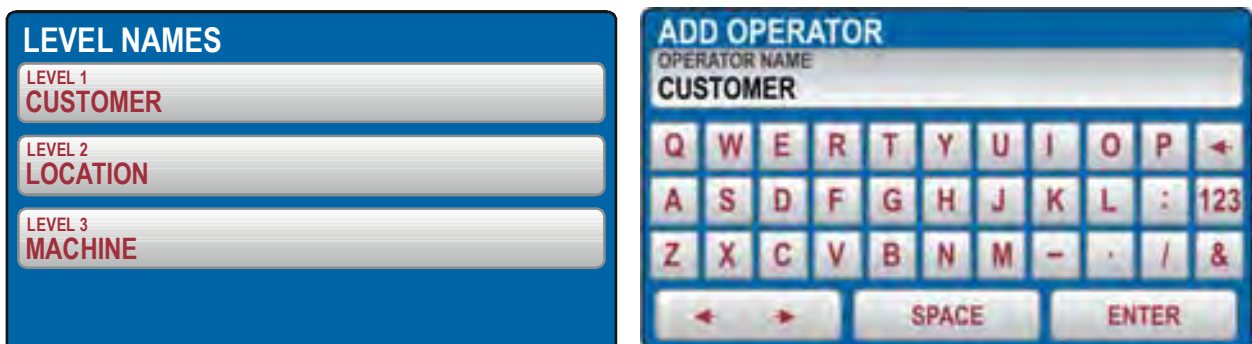

Fig. 12 : LEVEL NAMES Menu
- **LEVEL NAMES** → Up to 3 levels are available when saving test results **LEVEL1**, **LEVEL2** and **LEVEL3**. The operator can rename (**max 12 characters**) them freely by using the virtual keyboard (see Fig. 12) and can be used during the saving measurement data after the pressing od **SAVE** key (see § 7.1)